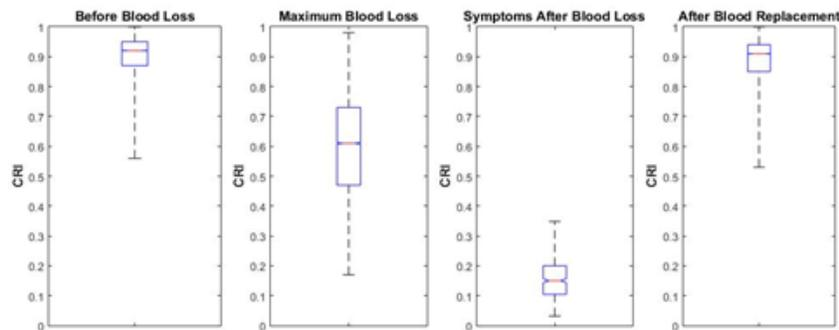
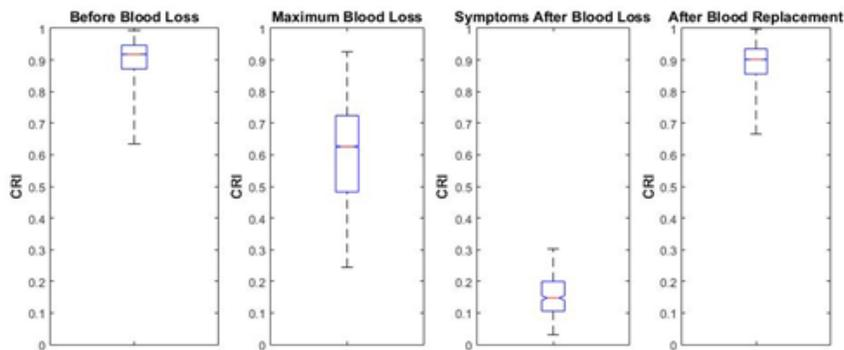

Figure 13 - Box and Whisker plots of instantaneous CRI values, before blood loss, at maximum blood loss
Figure 14 - Box and Whisker plots of one minute average CRI values, before blood loss, at maximum blood loss
- In this population ‘normal’ CRI values (obtained from all 42 subjects) before intravascular volume loss were significantly above 0.7 (see box and whisker plots in Figure 13, and Figure 14).
- At 20% intravascular blood loss volume, CRI values (obtained from the 32 subjects that completed the full protocol) were significantly lower than those before blood loss (see box and whisker plots in Figure 13 and Figure 14).
- CRI values when subjects were experiencing symptoms associated with hemodynamic decompensation were significantly lower than when subjects had no symptoms (see box and whisker plots in Figure 13 and Figure 14).
- CRI values after blood replacement return to values consistent with those before blood loss (see box and whisker plots in Figure 13 and Figure 14).
Figure 13 – Box and Whisker plots of instantaneous CRI values, before blood loss, at maximum blood loss (at end of blood withdrawal for subjects completing ~20% blood volume withdrawal), during symptoms (at end of blood withdrawal for subjects experiencing symptoms and not completing ~20% blood loss), and after blood replacement. For each panel above, the number of subjects was 42, 32, 7, and 32, respectively.
Figure 14 – Box and Whisker plots of one-minute average CRI values, before blood loss, at maximum blood loss (at end of blood withdrawal for subjects completing ~20% blood volume withdrawal), during symptoms (at end of blood withdrawal for subjects experiencing symptoms and not completing ~20% blood loss), and after blood replacement. For each panel above, the number of subjects was 42, 32, 7, and 32, respectively.